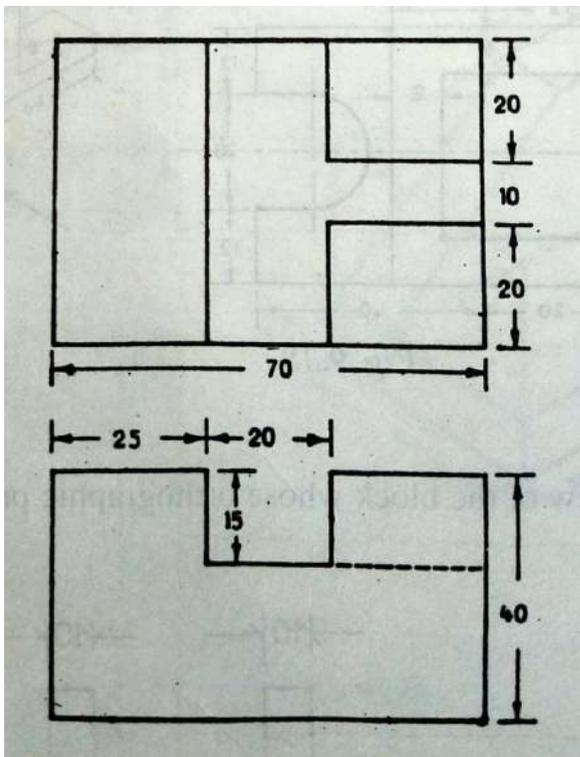

Fig.3
5. Third angle projections are given in **Fig. 3**. Draw the Isometric projection from the two views of the object.